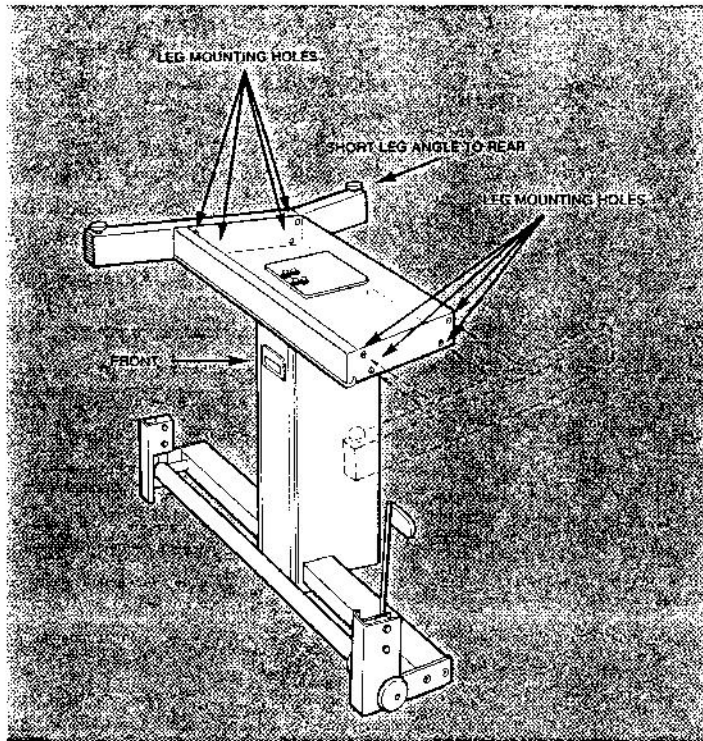

Figure 2-2: Attaching the legs
7. Fasten the legs to the pedestal with the 1/4" bolts. Legs and pedestal are marked to indicate the front. The short leg angle goes to the rear. See Figure 2-2. Tighten the bolts with the hex wrench from the pedestal hardware bag.